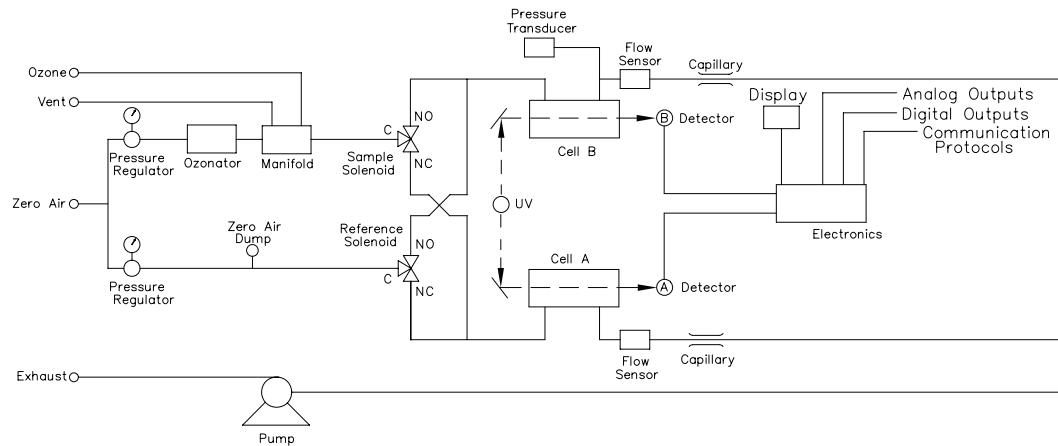

Figure 1-1. Model 49*i* Primary Standard Flow Schematic
Zero air is supplied to the Model 49*i* Primary Standard through the *zero air* bulkhead and is split into two gas streams, as shown in Figure 1-1. One gas stream flows through a pressure regulator to the reference solenoid valve to become the reference gas (I_o). The second zero air stream flows through a pressure regulator, ozonator, and manifold to the sample solenoid valve to become the sample gas (I). Ozone from the manifold is delivered to the *ozone* bulkhead. The solenoid valves alternate the reference and sample gas streams between cells A and B every 10 seconds. When cell A contains reference gas, cell B contains sample gas and vice versa.